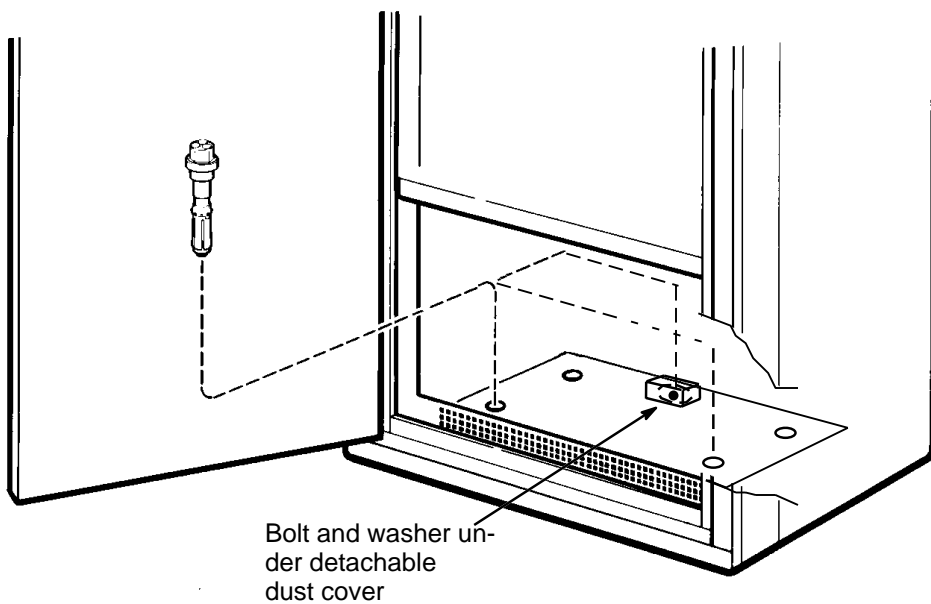

Figure 5 Securing the cabinet to floor
9. Secure the cabinet(s) to the floor with 4 or 2 bolts with washers as shown in figure 5.